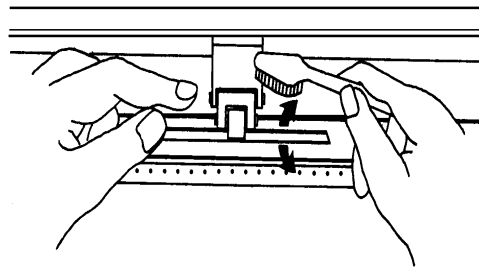

Figure 6-1
3. Use a bristle brush (a toothbrush is acceptable) to remove dust from the drum surface. Rotate the drum manually while cleaning. Refer to Figure 6-1.